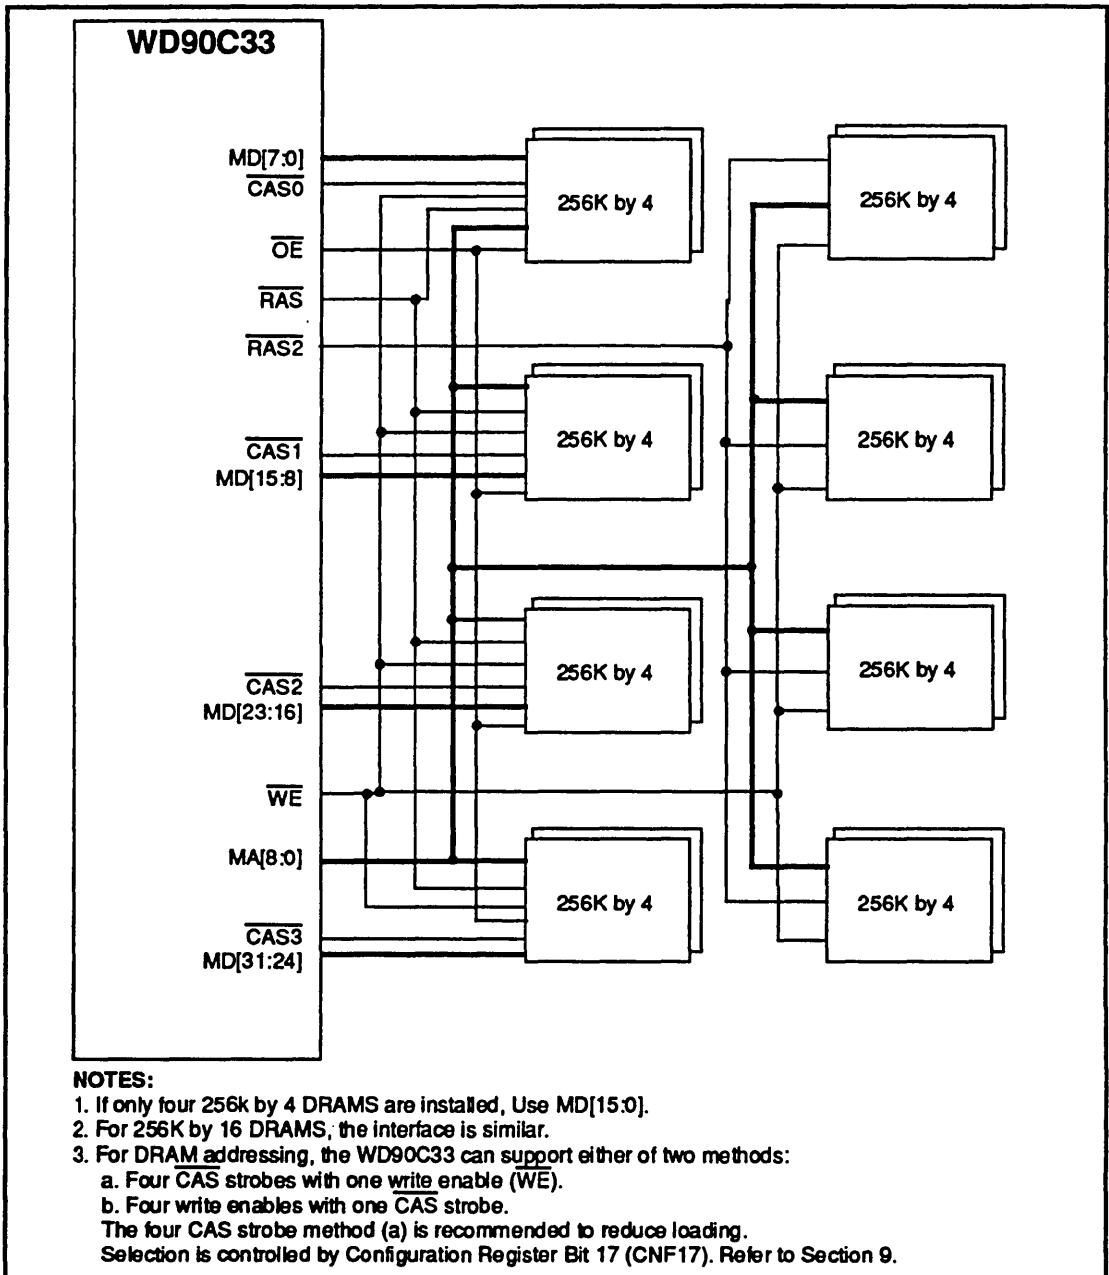

FIGURE 3-8. FOUR OR EIGHT 256K BY 4 DRAM INTERFACE
- Figure 3-8. Four or Eight 256K by 4 DRAM Interface
Figure 3-8 shows the interface between four or eight 256K by 4 DRAMs and the WD90C33 Controller.